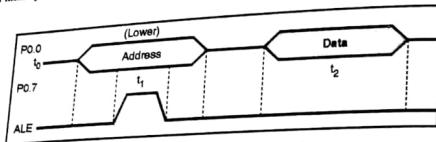

Fig. 3.3.2 : Multiplexed address / data bus
- If a logic 1 is written onto the address bit, then the upper FET will turn on and the lower FET will turn off providing a logic HIGH at the pin. If a logic 0 is written onto the address bit, then the upper FET will turn off and the lower FET will turn on providing a logic LOW at the pin. Once, the 8 bit address is formed and latched by the Address Latch will turn on providing a logic LOW at the pin. Port 0 can now read data from the Enable (ALE) pulse into the external circuits, the bus turns around to data bus. Port 0 can now read data from the external memory. For reading data it must be configured as a input port. Fig. 3.3.2 shows multiplexed address / data bus.